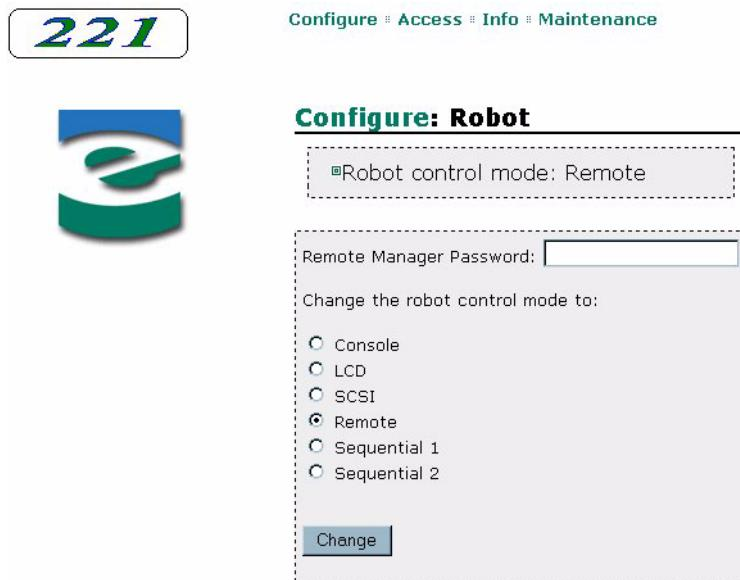

Figure 6-3 Remote management utility – Robot Control Mode Configuration page
2. Click on Set the robot control mode. A page similar to Figure 6-3 appears.